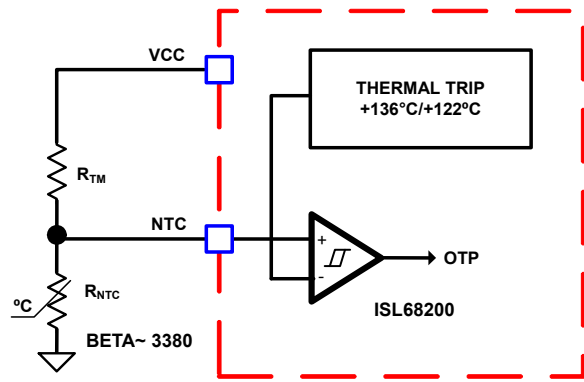
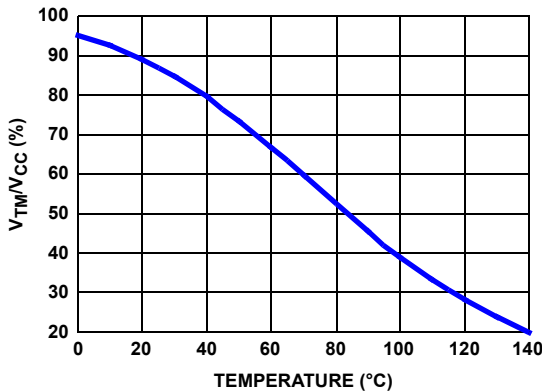

FIGURE 16. BLOCK DIAGRAM OF THERMAL MONITORING AND PROTECTION
FIGURE 18. THE RATIO OF TM VOLTAGE TO NTC TEMPERATURE WITH RECOMMENDED PART
The thermal monitoring function block diagram is shown in Figure 16 on page 18. Place one NTC resistor close to the respective power stage of the voltage regulator VR to sense the operational temperature. Pull-up resistors are needed to form the voltage dividers for the NTC pin. As the temperature of the power stage increases, the NTC resistance reduces, resulting in the reduced voltage at the NTC pin. Figure 18 on page 18 shows the TM voltage over the temperature for a typical design with a recommended 10kΩ NTC (P/N: NCP15XH103J03RC from Murata,  $\beta = 3380$ ) and 1.54kΩ resistor  $R_{TM}$ . It is recommended to use these resistors for accurate temperature compensation because the internal thermal digital code is based on these two components. If a different value is used, the temperature coefficient must be close to 3380 and  $R_{TM}$  must be scaled accordingly. For instance, if NTC = 20kΩ ( $\beta = 3380$ ), then  $R_{TM}$  should be  $20\text{k}\Omega/10\text{k}\Omega \cdot 1.54\text{k}\Omega = 3.08\text{k}\Omega$ .
to the NTC temperature of the practical design should be similar to that in Figure 18.
1. Properly choose the voltage divider for the NTC pin to match the NTC voltage vs temperature curve with the recommended curve in Figure 18 on page 18.
Figure 16 shows a comparator with hysteresis that compares the NTC pin voltage to the threshold set. When the NTC pin voltage is lower than 22.31% of VCC voltage (typically +136 °C), it triggers Over-Temperature Protection (OTP) and shuts down ISL68200 operation. When the NTC pin voltage is above 27.79% of VCC voltage (typically +122.4 °C), the ISL68200 resumes normal operation. When an OTP fault is declared, the controller forces the LGATE and UGATE gate-driver outputs low.